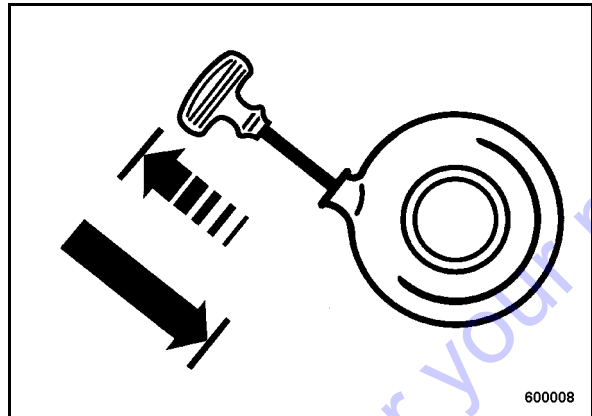

Fig. 15
- Slightly pull the starter handle (Fig. 15), until resistance can be felt (compression pressure), but do not pull out completely.